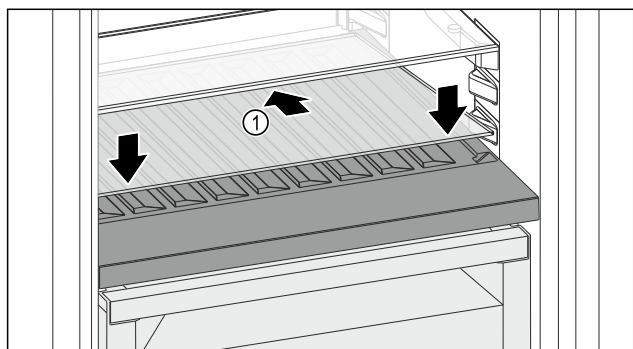

Fig. 110
- Place the glass shelf Fig. 110 (1) at an angle, sloping it downwards and backwards.
- Lower the glass shelf Fig. 110 (1) at the front.